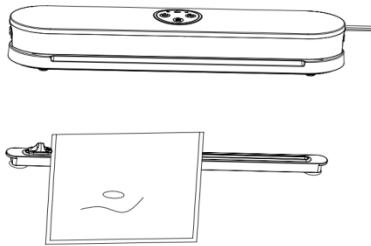

Fig.7
1. Place the external cutter on a flat surface and fix it. As shown in Figure 7.